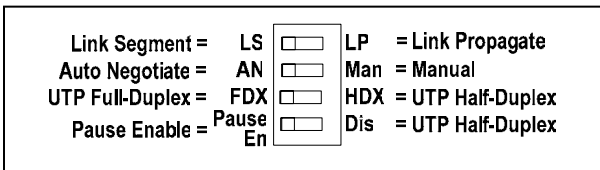

Figure 3. Front Panel Switch
4.3 Four DIP switch option settings are located on the front of the Gigabit Ethernet card. Refer to Figure 3 for correct application settings.